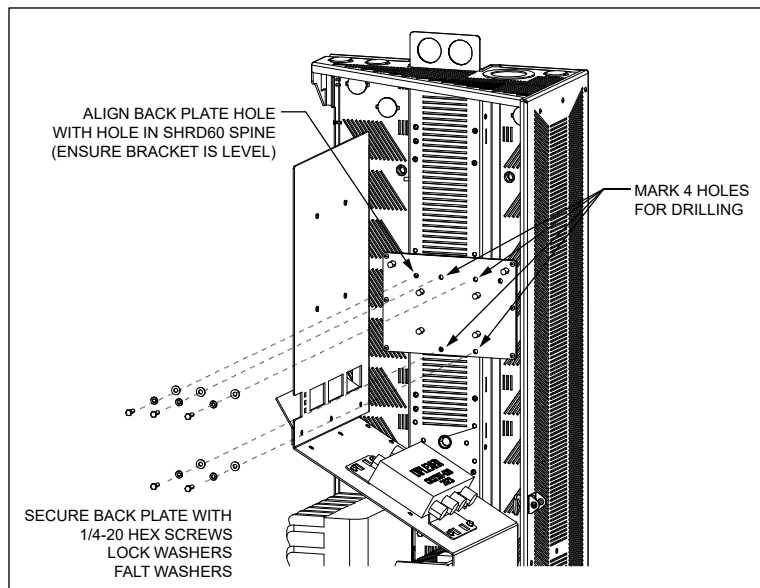

Figure 20 Hanging Bracket Back Plate
2. Ensure that the back plate is level. Mark the locations of the four mounting holes indicated in Figure 20. Set the back plate aside.